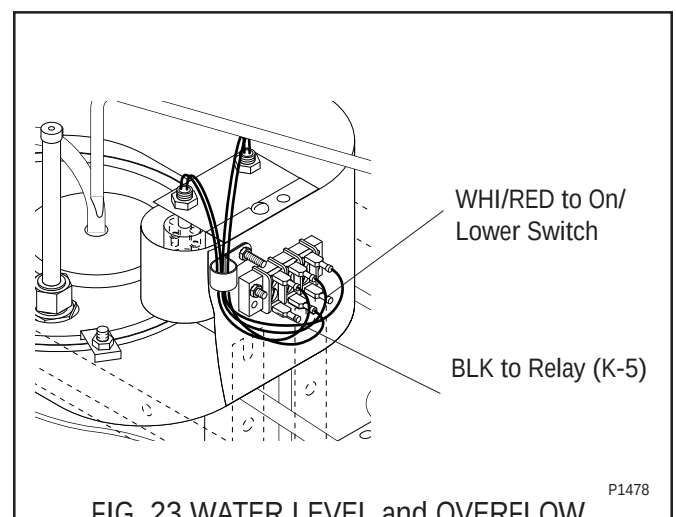

FIG. 23 WATER LEVEL and OVERFLOW SAFETY SWITCH WIRING
If continuity is present as described, reconnect the wires as shown in FIG. 23, the switches are operating properly.
9. Refer to FIG. 23 and the relative wiring diagram when reconnecting wires.